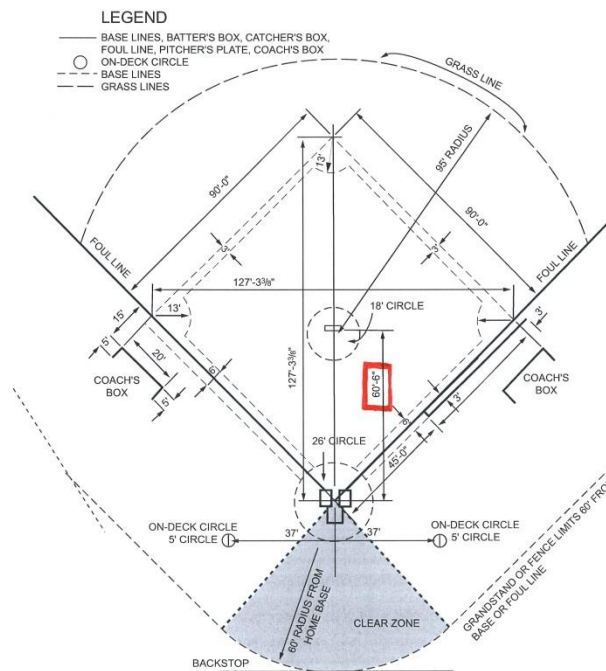

Figure 1
1. Begin the installation by marking the location of the mound in reference to home plate (see *figure 1*). Once location is determined, attach the Center Section Hitch (see **Hitch Attachment**, page 5) first and then the Wheel Kit. To attach (1) wheel kit, begin by attaching the jack onto the side frame of the center section. Match the (4) curved finger pattern of the jack to the matching (4) vertical obrounds on the vertical surface of the center section. Turn the jack handle slowly and continuously monitor the jack and center section interface while elevating the unit. You may have to lower the jack and re-adjust the jack until the interface feels firmly attached. Once the desired height of about 6" is achieved, grab (1) wheel kit and insert into its matching finger/obround pattern (see *figure 2*). Slide the wheel kit vertical until it stops paying close attention the flat face of the wheel kit sits flat up against the vertical face of the center section. Slowly lower the center section while continuously monitoring the wheel kit/center section interface. You may need to elevate and re-adjust the wheel kit until the wheel kit is firmly attached. Duplicate procedure with the other remaining wheel kit. Once complete, place the lifting jack in a secure area for future wheel kit removal. Move and fine tune the center section into position until it satisfies the required measurements per venue rule books. One may want to optionally mark the field to help facilitate quicker future installation and placement of the center section. Remove Wheel Kits and the hitch (see **Hitch Attachment**, page 5).